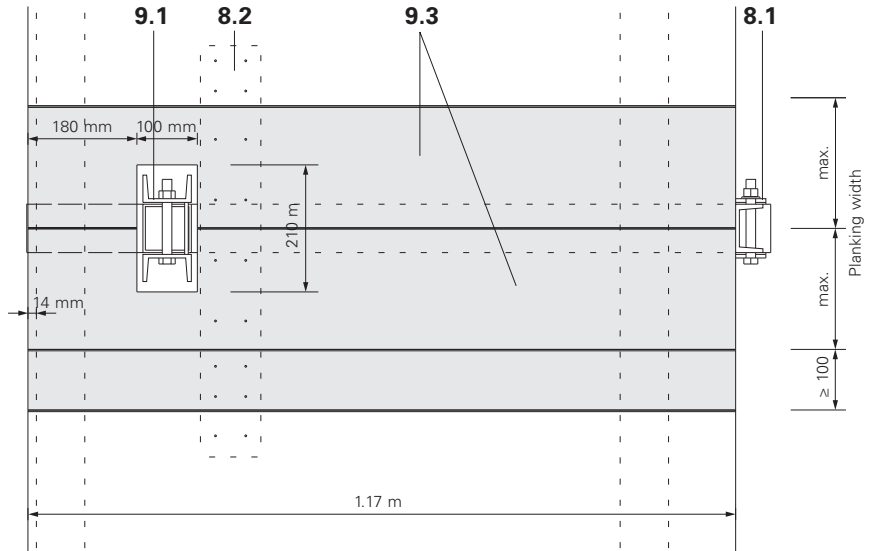

Fig. A2.07
- The planking width in the compensation area is  $\geq 100$  mm! (Fig. A2.07)